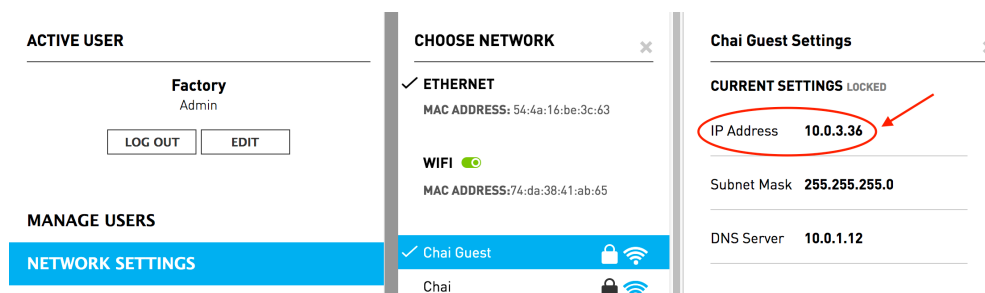

Figure 2.1
- 7) Type in the password for the network and note the IP address stated under **Current Settings** (Figure 2.1). Make sure this IP address is also displayed on the bottom left of the instrument’s LCD screen. If the Wi-Fi IP address is not displayed, turn off the instrument, wait for 30 seconds, and power the device back on.